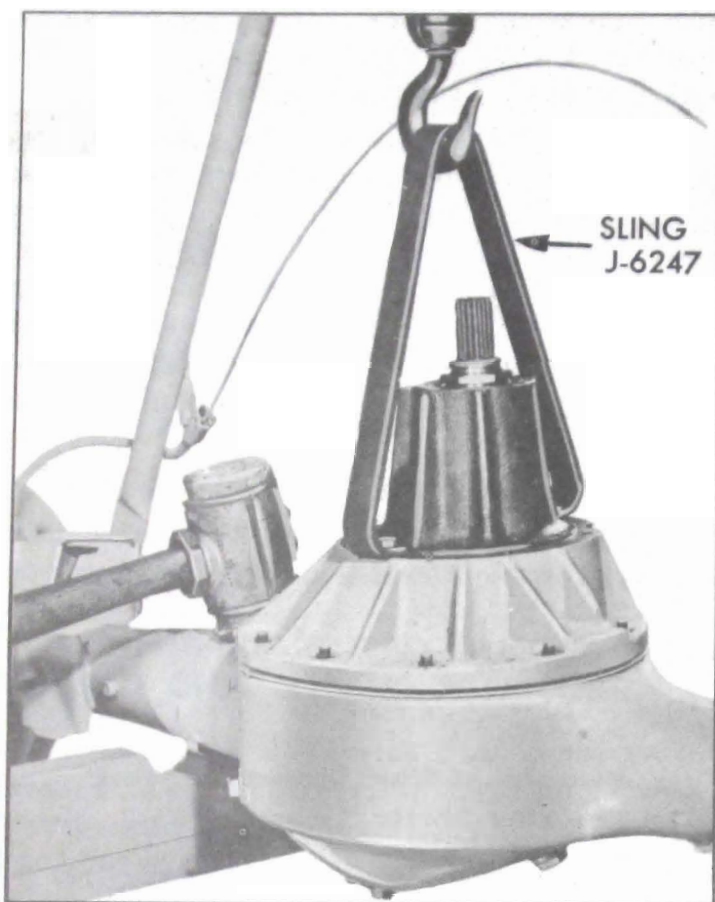

Figure 6-10—Removing Carrier Assembly from Rear Axle Housing
7. Remove carrier to axle housing nuts and lift carrier from housing using Sling J-6247 and a chain hoist, if available. See Figure 6-10.
2. Install carrier assembly in axle housing using Sling J-6247 as shown in figure 6-10. Install nuts and tighten them evenly and alternately to 50-60 ft. lbs.